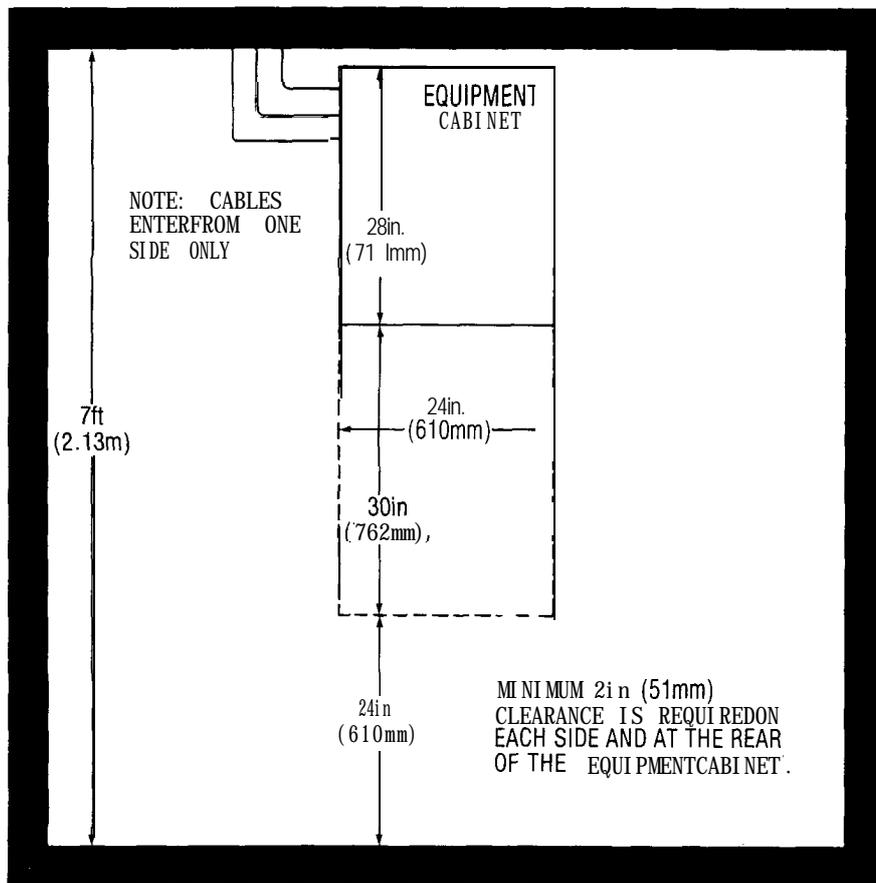

Fig. 401-3
- [3B] Position cabinet as shown in Fig. 401-3
POSITION CABINET (FIG. 401-3)